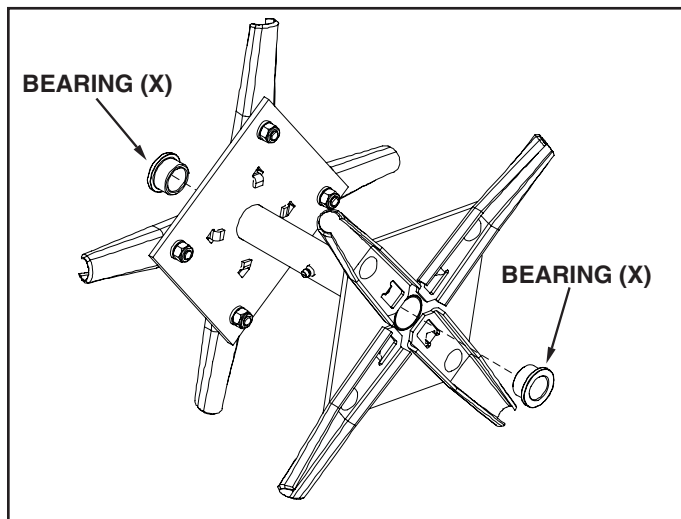

FIGURE 1
1. Push one split plastic bearing into each end of each double spool knife assembly. See figure 1.